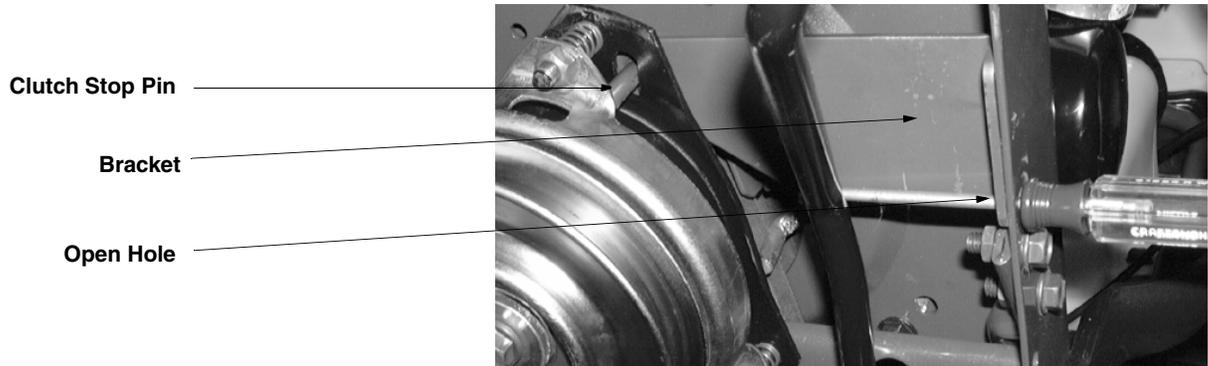

Figure 3
4. Place the Bracket in place and make sure the clutch stop pin locks into the electric PTO clutch hole. See Figure 3.
**NOTE:** Screw driver shown through the open hole of the frame rail in Figure 3.